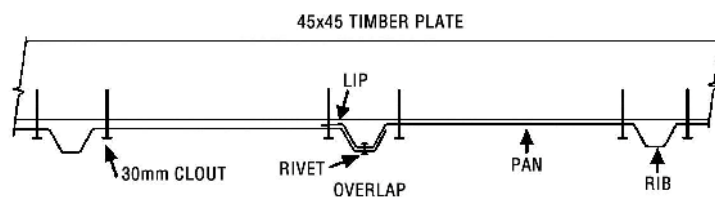

fig. 1
When fitting End Sheets ensure they overlap correctly (*fig 1*).
Step 2: Back Wall: Position the first Wall Sheet with the LIP on the right hand side. Ensuring the LIP is flush with the side of the corner Stud and the top of the Wall Sheet is flush with the top of the Top Plate, tack in place. Position the next Wall Sheet with the LIP on the right hand side. Overlap as shown in **fig 1**. Ensuring Wall Sheet is flush with top of Top Plate, tack in place. Repeat with remaining Wall Sheet.